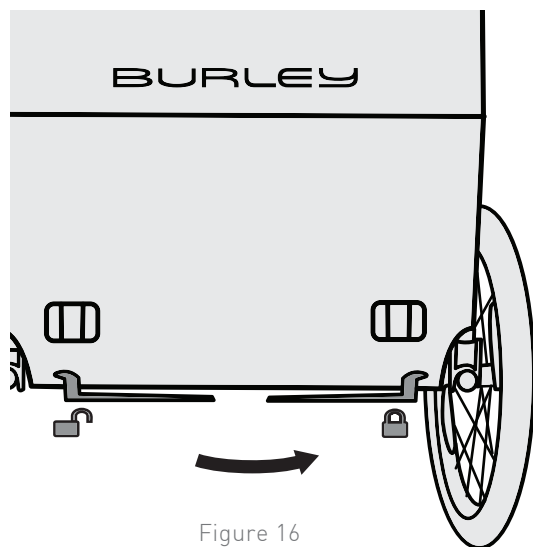

Figure 16
1. To lock the brake, slide the lever to the right (Figure 16). To release the brake, slide the lever to the left.